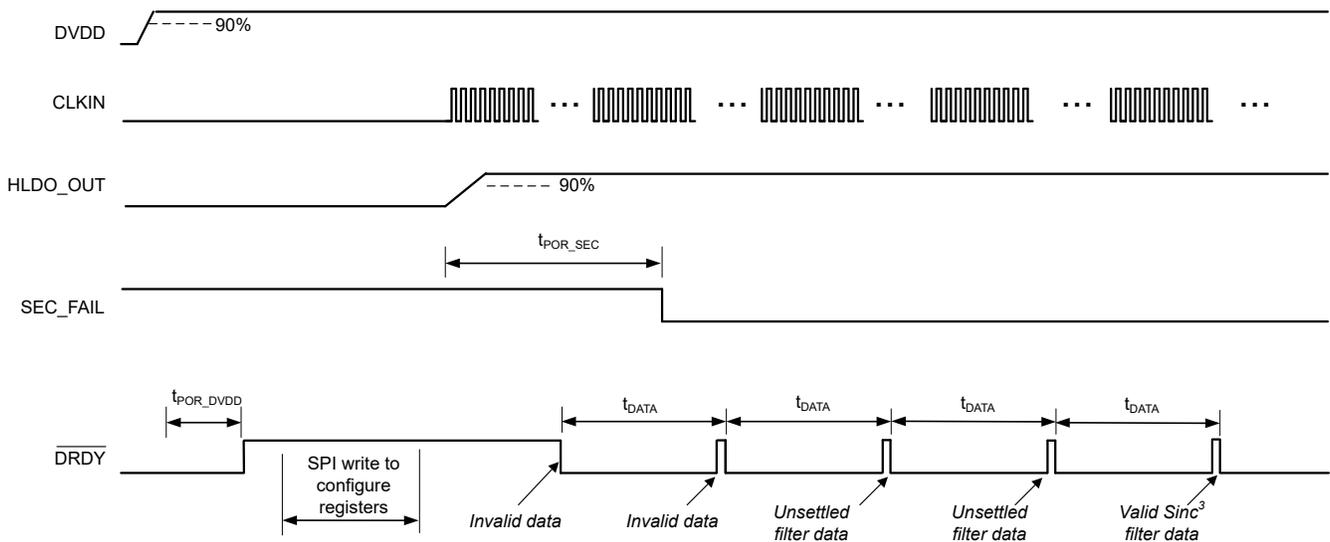
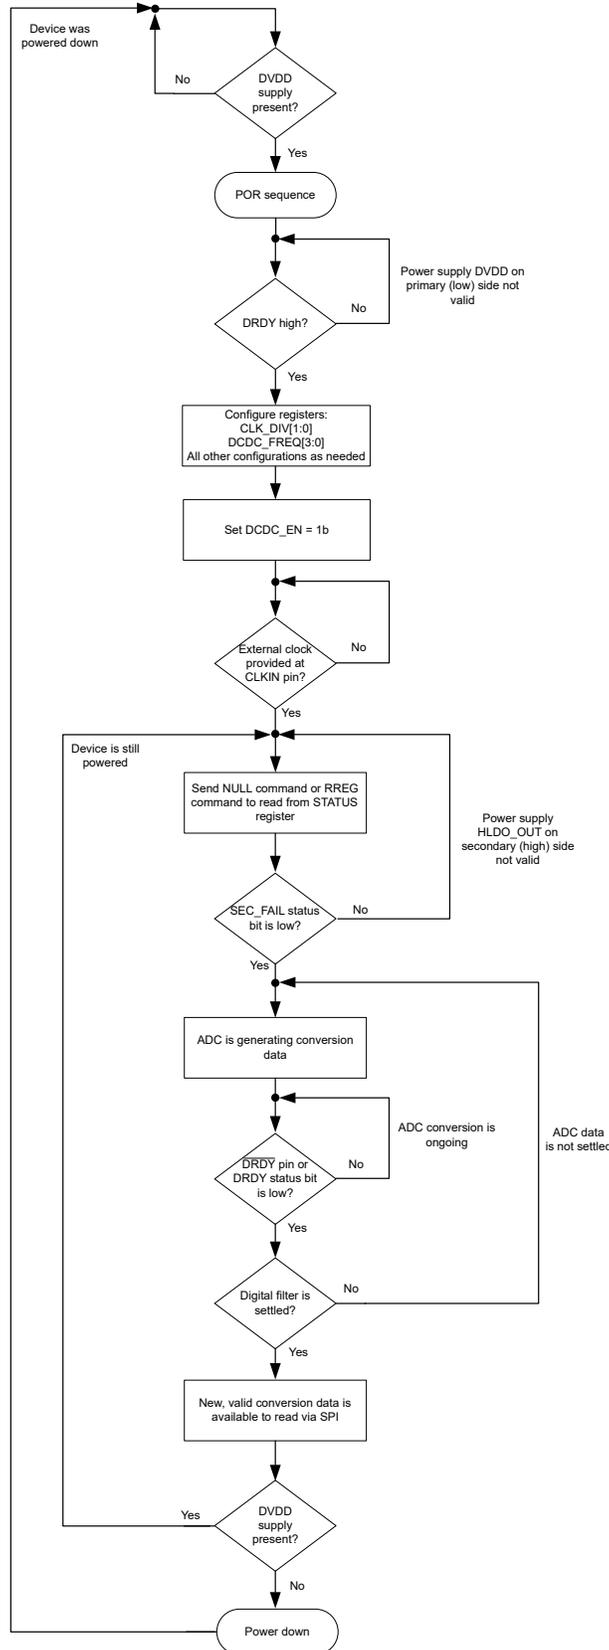

Figure 8-18. Start-Up Behavior at Power-Up and Settling Times, OSR = 1024
図 8-19. Flow Diagram for Start-Up Procedure at Power-Up
A recommended procedure for powering up the AMC131M03 is described in this section. Figure 8-18 depicts a timing diagram for the device behavior when this recommended sequence is used. Figure 8-19 provides a flow diagram that displays the recommended sequence in a graphical form.
- The high-to-low transition of $\overline{\text{DRDY}}$ indicates that new conversion data are available. As given in Figure 8-18, ADC data are only valid if the SEC_FAIL reads 0b during the conversion period. The first two conversion results shown in Figure 8-18, represent invalid data.
- When the ADC generates valid data, the digital filter must settle, as described in the SINC³ and SINC³ + SINC¹ Filter section. Two subsequent conversion results illustrated in Figure 8-18 are unsettled (assuming OSR equals 1024), and the last conversion result shown provides valid and settled data.
In Figure 8-18, $t_{\text{POR_SEC}}$ is the time from enabling the DC/DC converter to the first falling edge of the SEC_FAIL bit, which indicates that the secondary power supply at the HLDO_OUT pin is stable. $t_{\text{POR_DVDD}}$ is the time from DVDD supply at 90% to $\overline{\text{DRDY}}$ first rising edge.